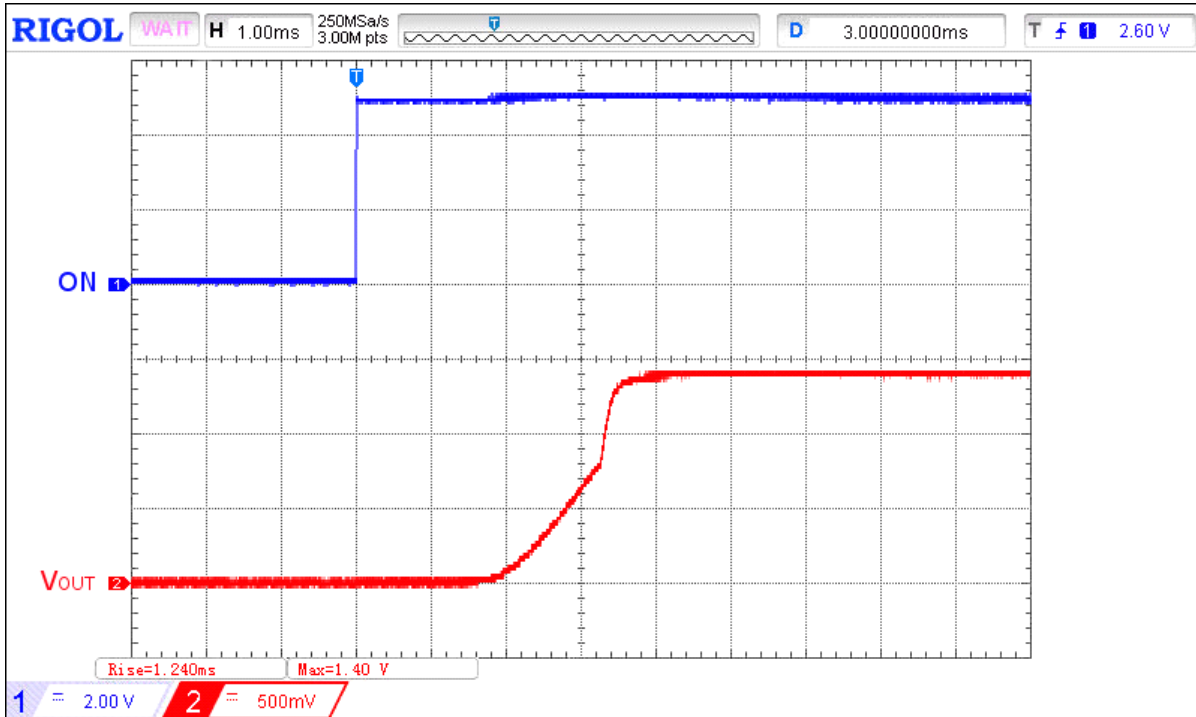

Figure 10. Non-linear and monotonic turn ON operation waveform for  $V_{IN} = 1.5\text{ V}$ ,  $C_{LOAD} = 0.1\ \mu\text{F}$ ,  $R_{LOAD} = 1.5\ \Omega$
- VIN < 2 V with 2 Ω load, non-linear and monotonic power on ramp. (Figure 10, VIN = 1.5 V, CLOAD = 0.1 μF, RLOAD = 1.5 Ω)